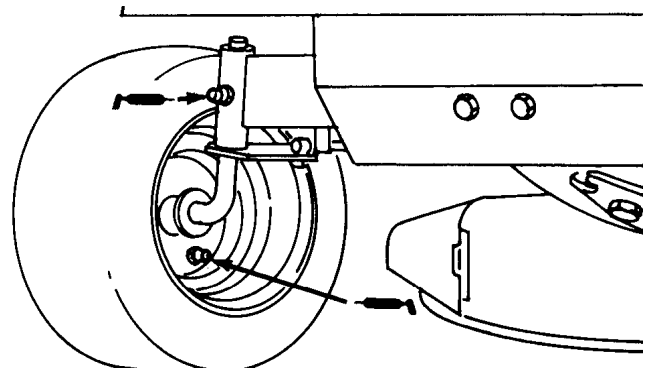

Figure 11
1. Lubricate the front wheels and spindles until grease begins to ooze out of the bearings (Fig. 11).